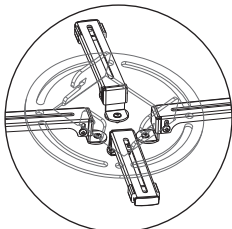

figure 11
3. Connect the installation arms to the projector conversely if the distance of installation holes is less than 120mm. Connect the installation arms to the installation base via sliding installation button as figure 11